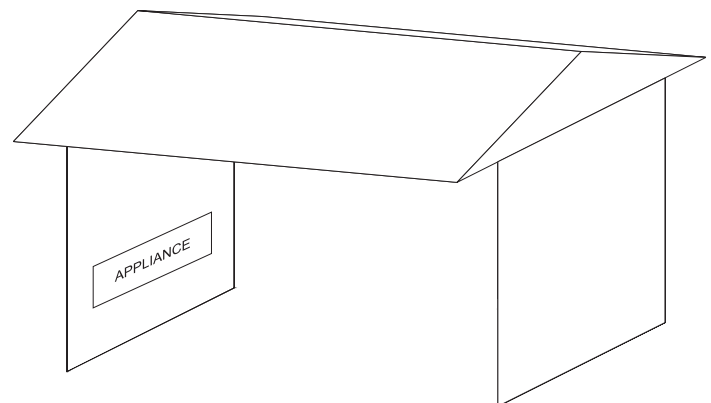

Figure 7
- Within a partial enclosure which includes an overhead cover and no more than two side walls. These side walls may be parallel, as in a breezeway or at right angles to each side. See Figure 7.